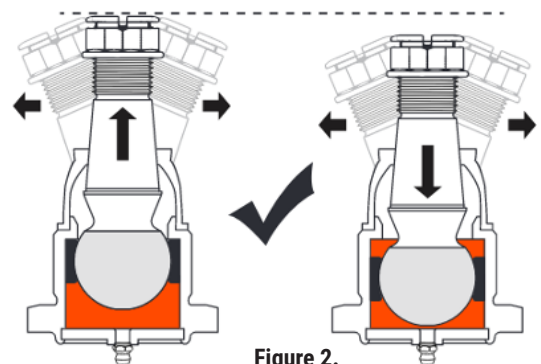

Figure 2.
- Mevotech TTX Front Upper Ball Joint TXK3134T enables both a sliding and swing movement between the stud and housing to compensate for variation in the axle assembly. This is normal operation. See Figure 2.